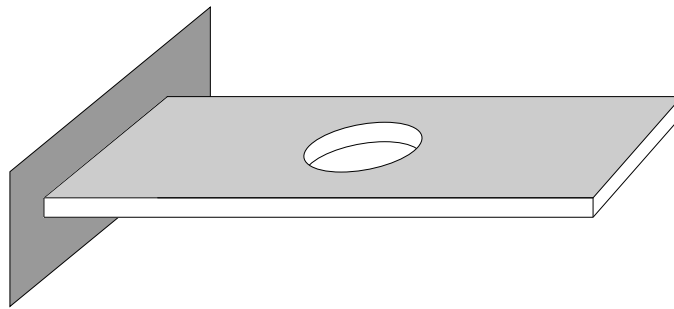

Figure 1: Plate with hole
2. Consider the steel plate shown in figure 1 below. The length, width, thickness and diameter of the hole are $\ell = 0.5m$, $w = \ell/4$, $t = \ell/20$ and $d = w/2$ respectively. Modell the plate as a 3D problem in femlab. The plate is clamped at the left end.